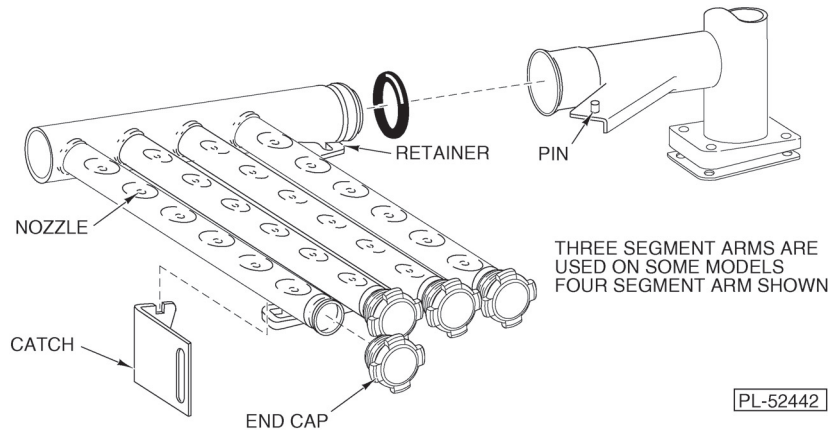

Fig. 14
5. Remove wash arms. Remove wash arm end caps (Fig. 14) and push any nozzle obstructions into the wash arms. Thoroughly flush the wash arms in a sink and replace the wash arm end caps.
16. Insert the lower wash arm at an angle between the conveyor and install the retainer over the pin. Rotate the arm toward the catch and engage the hook into the notch (Fig. 14).